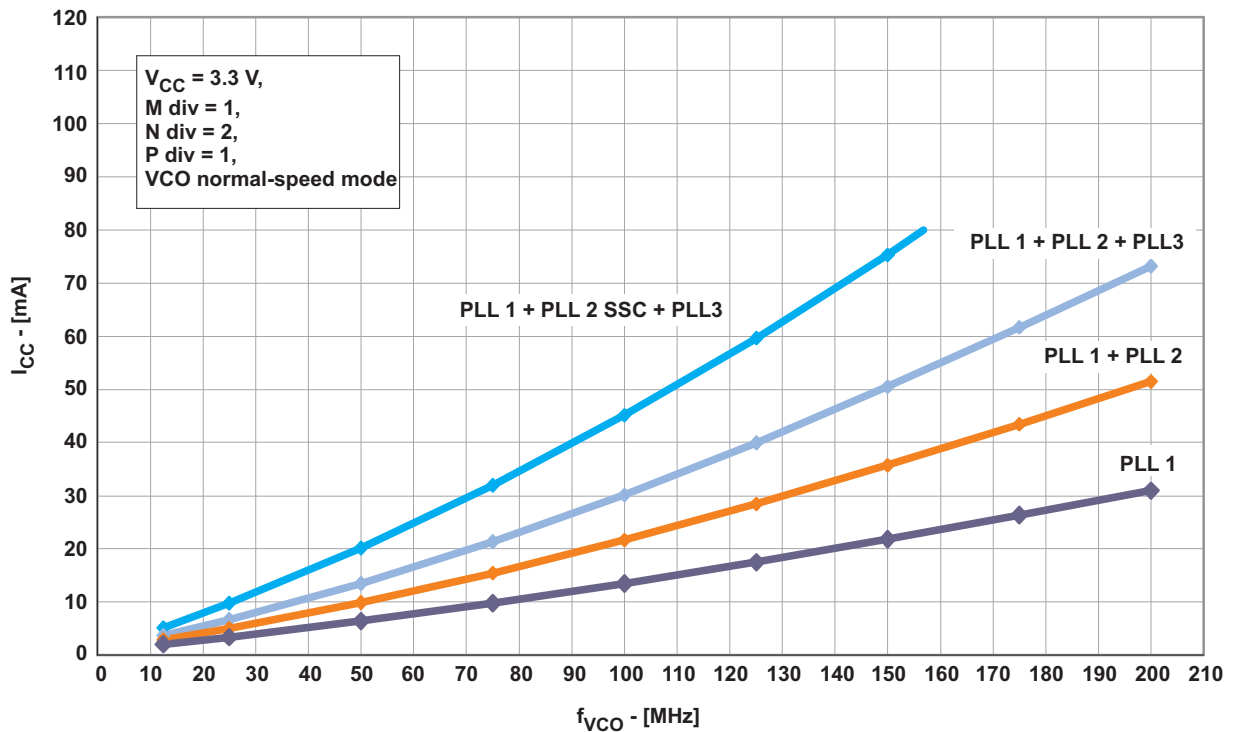
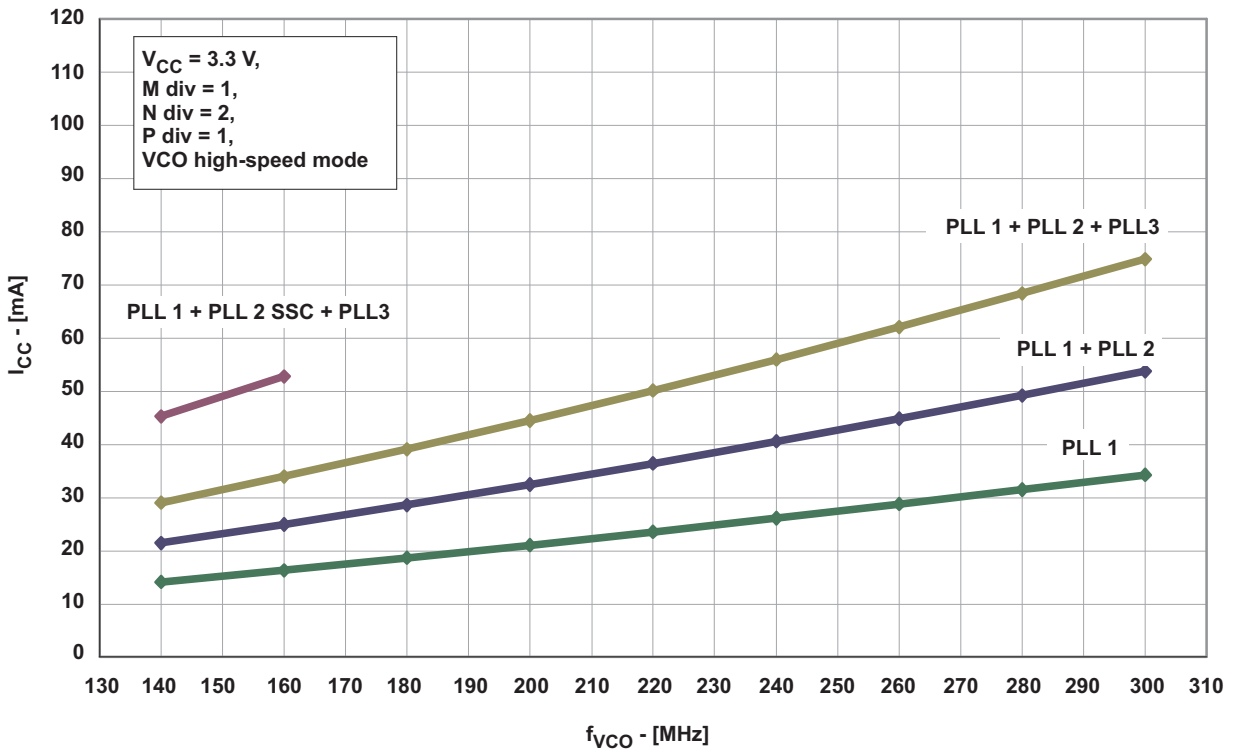
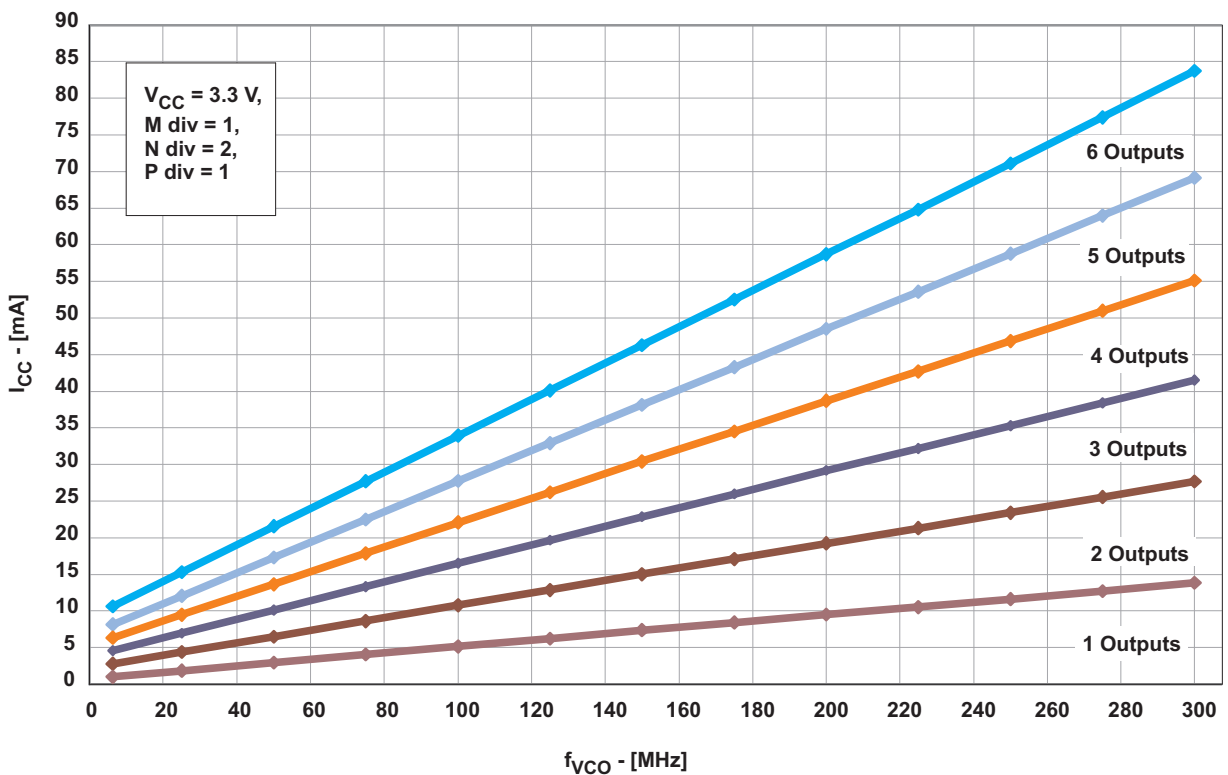
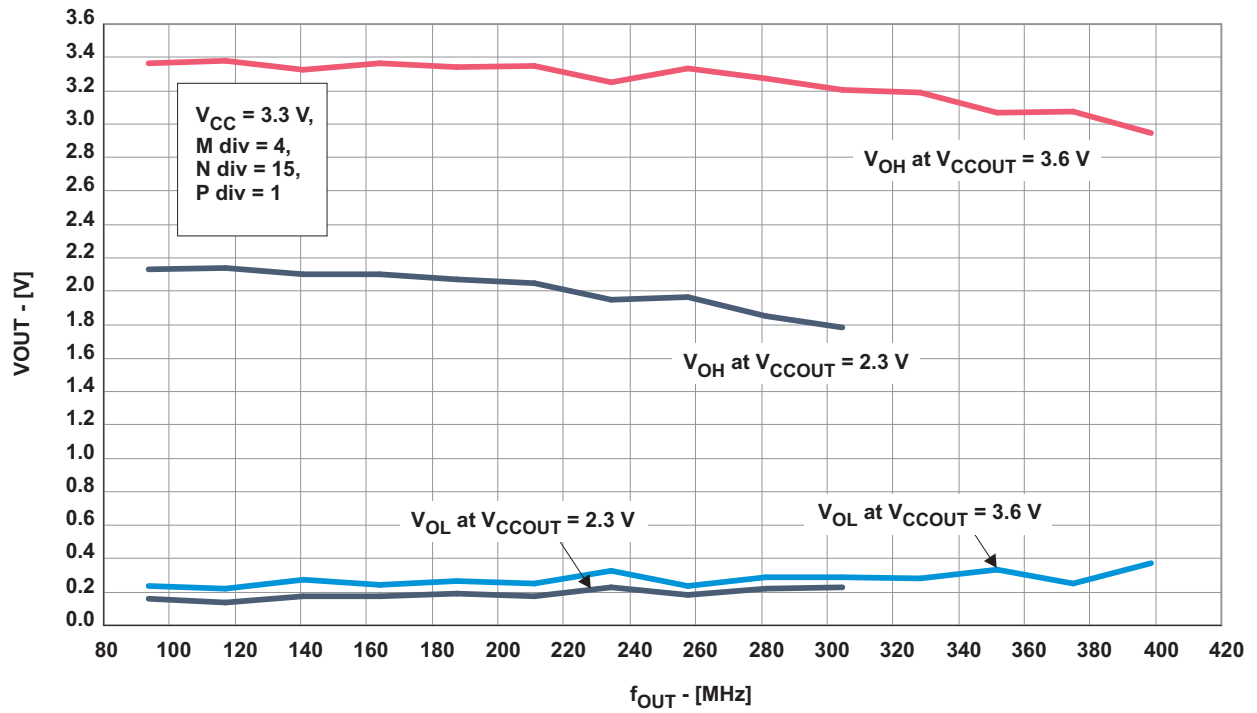

Figure 2. ICC vs Number of PLLs and VCO Frequency (VCO at Normal-Speed Mode, Byte 6 Bit [7:5])
Figure 3.  $I_{CC}$  vs Number of PLLs and VCO Frequency (VCO at High-Speed Mode, Byte 6 Bit [7:5])
Figure 4.  $I_{CCOUT}$  vs Number of Outputs and VCO Frequency
Figure 5. Output Swing vs Output Frequency
(1) All typical values are at respective nominal VCC.
(2) For calculating total supply current, add the current from Figure 2, Figure 3, and Figure 4. Using high-speed mode of the VCO reduces the current consumption. See Figure 3.
(3) Normal-speed mode or high-speed mode must be selected by the VCO frequency selection bit in Byte 6, Bit [7:5]. The min f(VCO) can be lower but impacts jitter-performance.
(4) Do not exceed the maximum power dissipation of the 20-pin TSSOP package (600 mW at no air flow). See Figure 5
(5) 50000 cycles.
(6) Jitter depends on configuration. Jitter data is normal tr/tf, input frequency = 3.84 MHz, f(VCO) = 245.76 MHz.